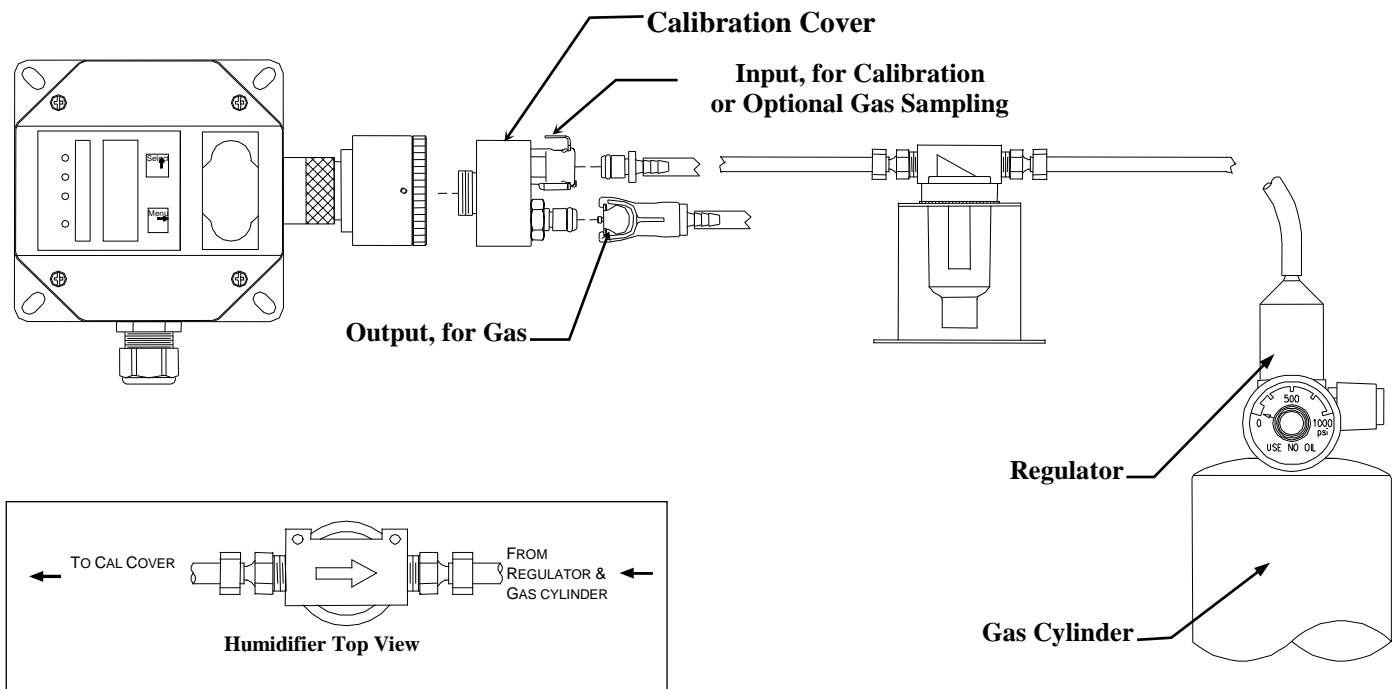

Figure 6: Calibration Adapter
The ZERO function must be performed by exposing the **SE-5155 MOS** instrument to clean fresh air. If the air at the sensor is in question, use a cylinder of 20.9% oxygen to provide a clean air reference. See **Figure 6**
3. Attach the associated calibration gas cylinder to the calibration adapter. See **Figure 6** on calibration adapter.